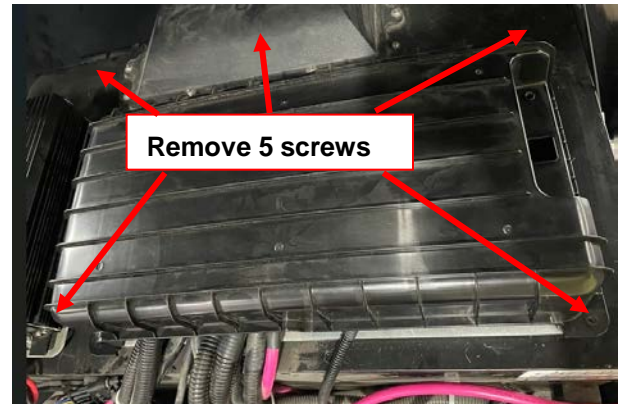

Figure 13
3. Remove 5 screws that are used to fix Controller cover (Figure 13).